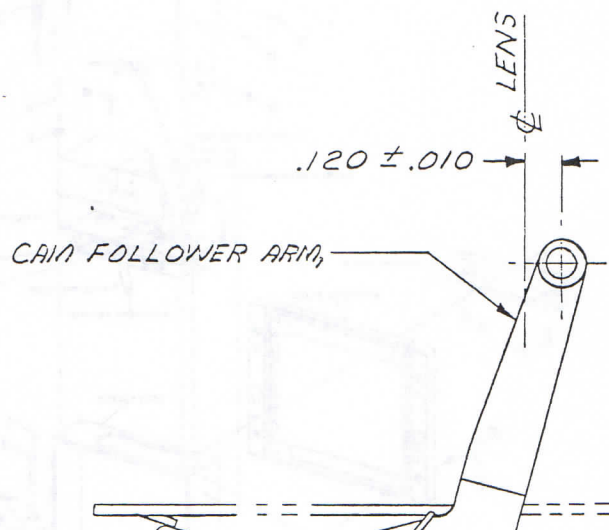

Figure 1-11A. FOLLOWER ARM SETTING
v. Tighten screws (6 & 8). Replace screw (10).
w. Release the rangefinder clutch by inserting a small rod in place of the clutch release rod and pressing down. The center tip of the follower arm must concur with dimensions shown in figure 1-11A. If this dimension is incorrect, the lens release arm must be bent at small tab (near lens release pin) to achieve this dimension.